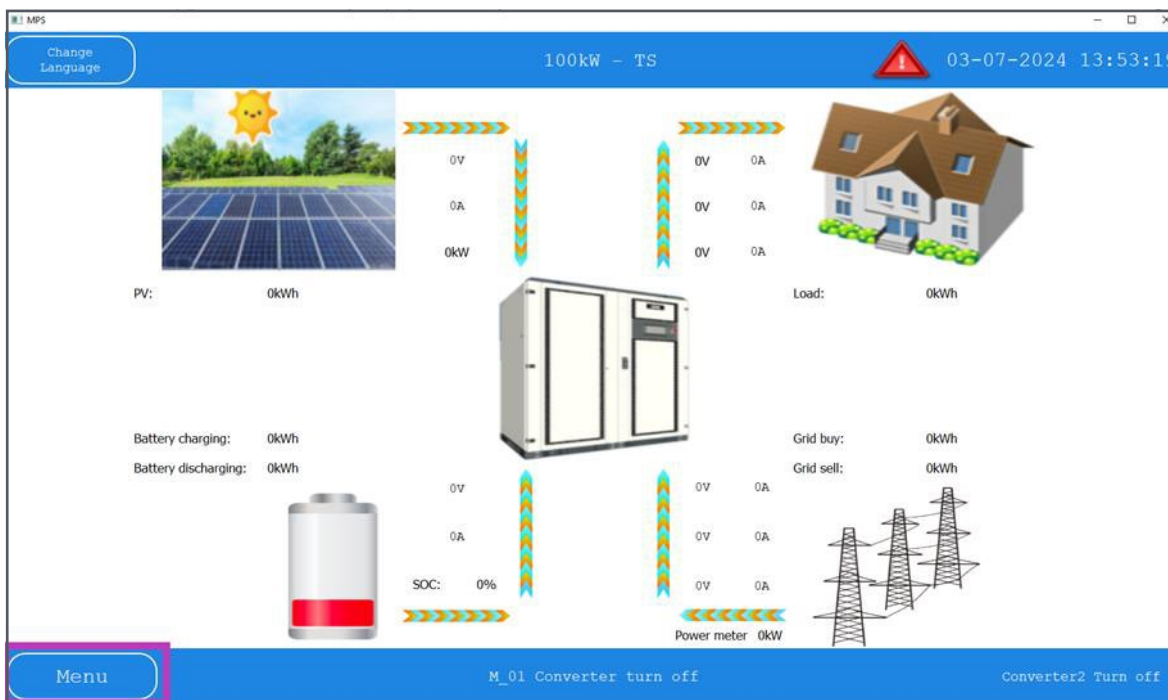

Figure 33: Menu Button
2. Remove the cover on the maintenance bypass circuit breaker (MAINTENANCE) located in Figure 33.